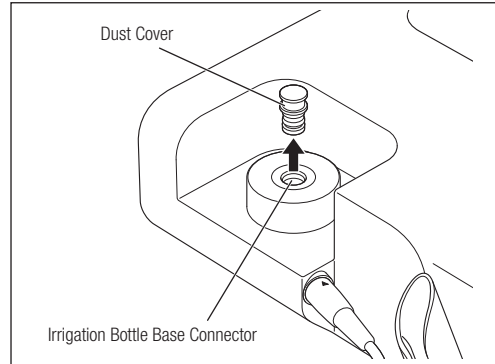

Fig. 12
- 1) Remove the Dust Cover from the Irrigation Bottle Base Connector (Fig. 12).